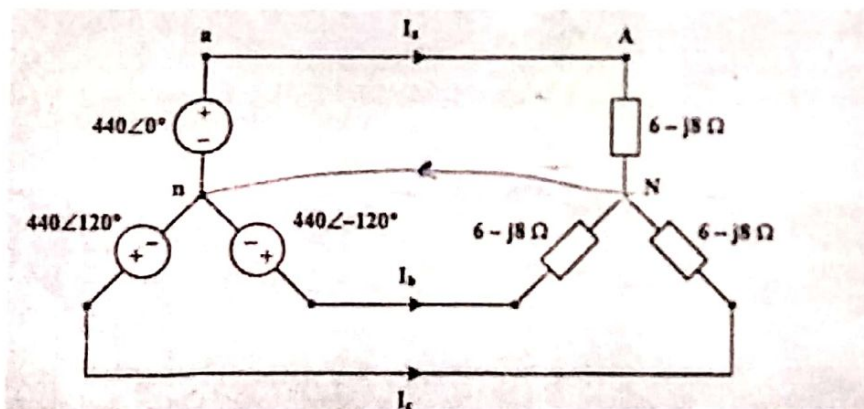

FIGURE 3
3. For the three-phase power system shown in FIGURE 3, calculate line currents I_a , I_b , and I_c . Also sketch the power triangle. Assume that all the given voltage values are RMS values. [5]